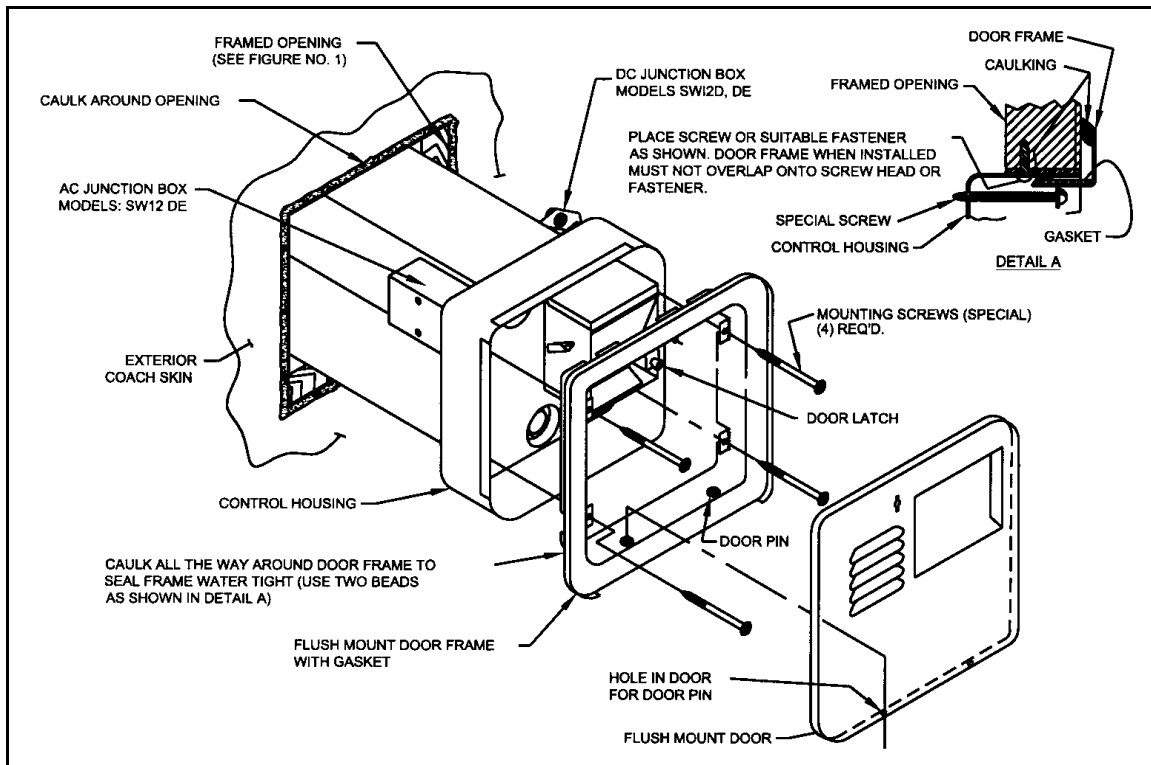

Figure 2
### INSTALLATION USING FLUSH MOUNT FRAME & DOOR (See Figure 2 for Illustration)
B. Refer to Figure 2 for location of D.C. junction box on models SW 12D and SW 12DE. Refer to Figure 5 for location of D.C. junction box on model SW 12DEM.
B. Refer to Figure 2 for location of A.C. junction box on model SW 12DE. Refer to Figure 5 for A.C. junction box on model SW 12DEM.